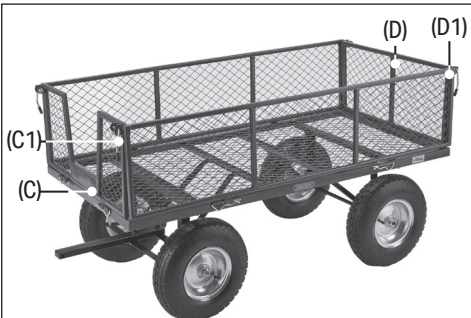

Fig. 18
3. Attach the cage front (C) and rear (D) panels in the same way, locking the handles (C1 and D1) on the end panel into the hooks (B1) on the side panels to hold the structure in place. (Figs. 18 and 19).